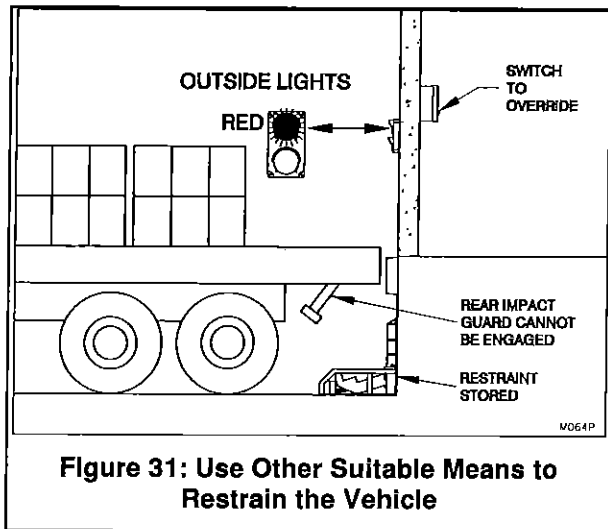
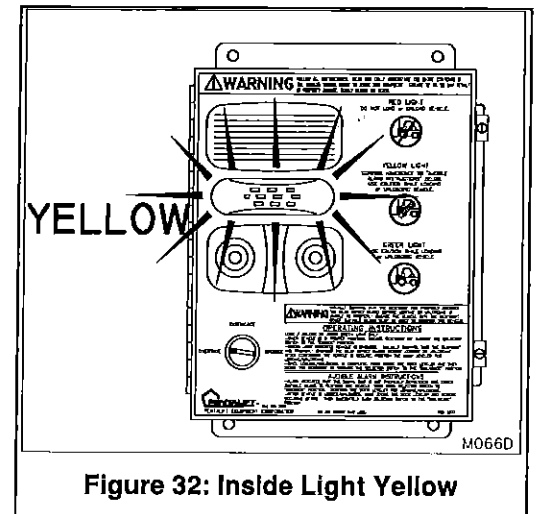

Figure 31: Use Other Suitable Means to Restrain the Vehicle
Figure 32: Inside Light Yellow
4. To test the **OVERRIDE** feature, ensure the signal bar is not depressed and follow the entire sequence outlined in Step 2. With the restraint in the fully raised position and with the alarm sounding, turn the selector switch to the **"OVERRIDE"** position (see Figure 32, Page 25). The hooking arm will automatically return to the stored position, and the alarm will be silenced. The **outside RED** light must be illuminated and the **inside YELLOW** light must be illuminated. (see Figure 32 and Figure 31, Page 25).